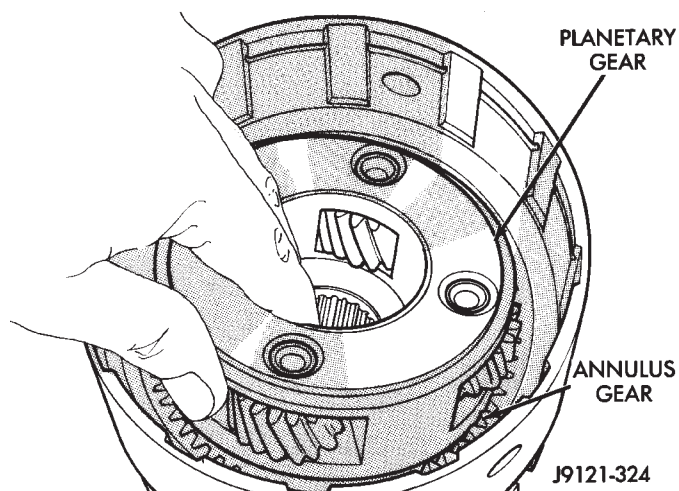

Fig. 43 Installing Planetary Gear
(11) Install planetary gear in annulus gear (Fig. 43). **Be sure planetary pinions are fully seated in annulus gear before proceeding.**